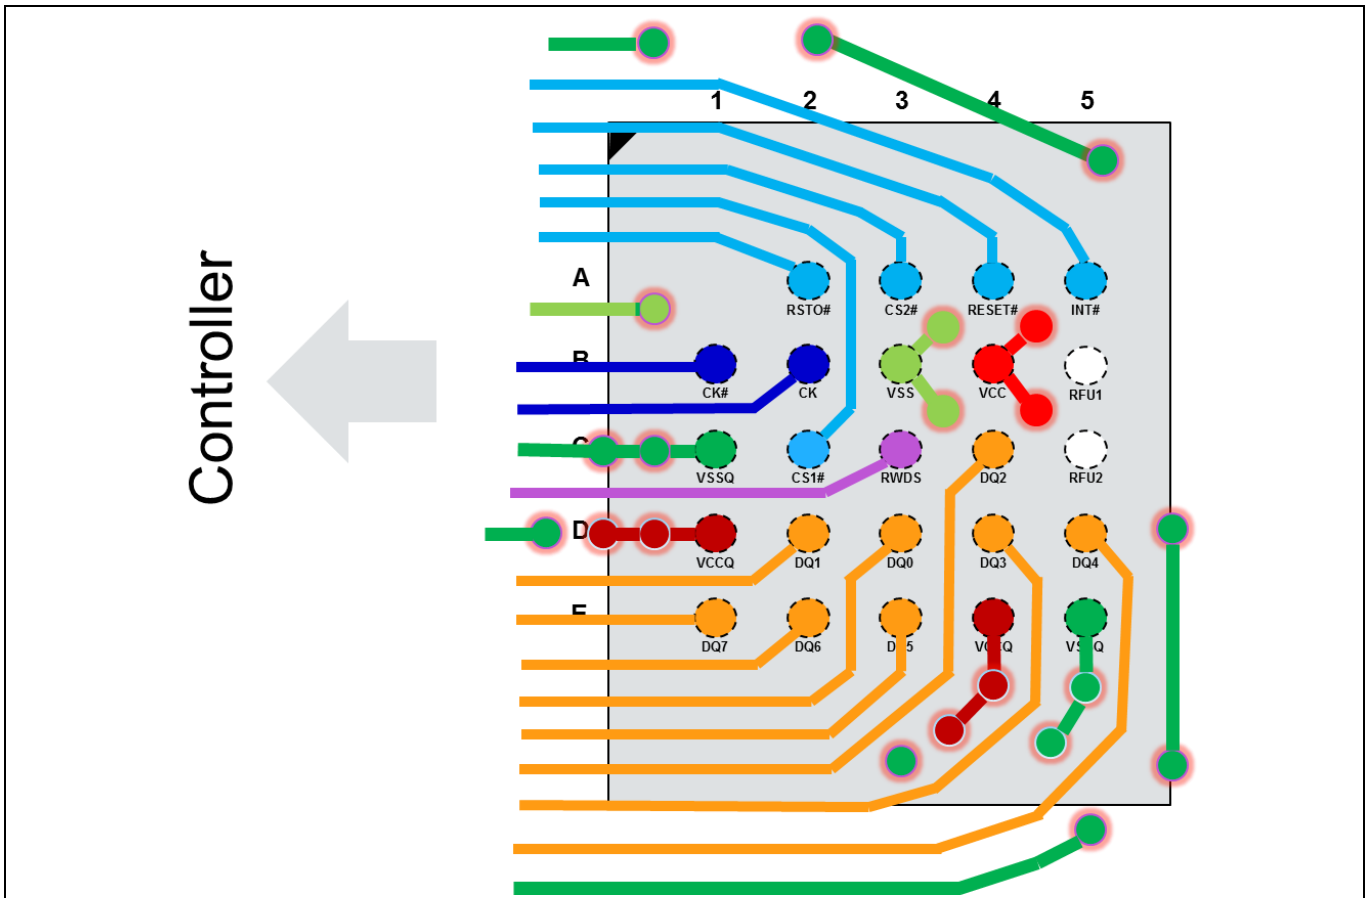

Figure 2 FAB024 and VAA024 PCB breakout
- As shown in Figure 2, it is possible to breakout all signals on the top layer before redirecting them towards the controller. This is only one of the options for breakout. If multiple layers are available for breakout, different breakout strategies can be used as long as the routing and power delivery guidelines as shown in this section and the **General signal routing guidelines** section are met
- As shown in Figure 2, the priority is given to first breakout **DQ (0-7)** as well as **RWDS** in the direction of the controller to allow for the smallest data channel length between HYPERBUS™ memory and controller
- The VSS guard traces shown in Figure 2 are meant to act as an additional referencing against signals of other interfaces and must be more planar and well stitched with the VSS layer (shown as traces only for pictorial reasons)